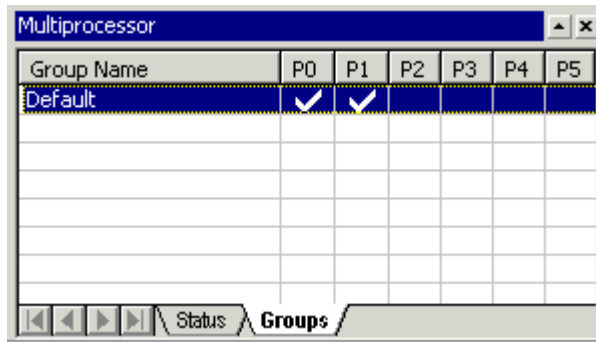

Figure 3-50. Multiprocessor Window: Groups Tab Page
1. In the Multiprocessor window, click the **Groups** tab to display the **Groups** tab page, shown in Figure 3-50.